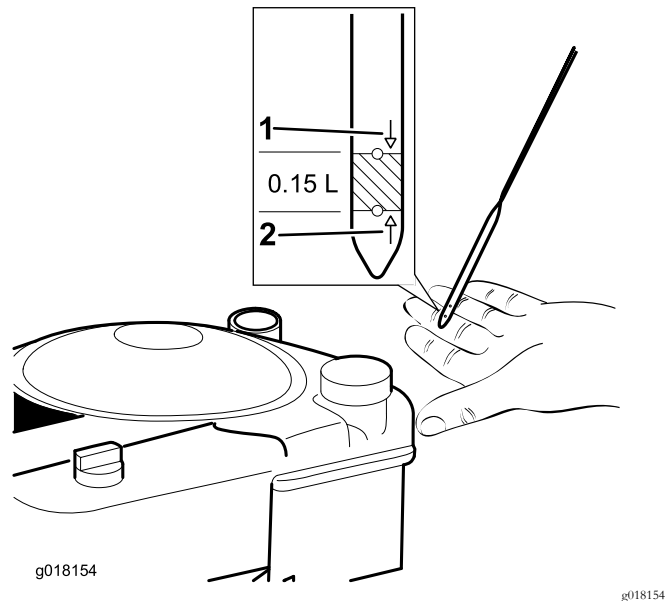

Figure 10
- 3. If the oil level is low, **slowly** pour oil into the oil-fill tube, wait 3 minutes, and check the oil level on the dipstick by wiping the dipstick clean and then inserting the dipstick into the tube (Figure 10).
- 4. Fill the engine with oil until the dipstick indicates that the engine-oil level is correct as shown in Figure 10. If you overfill the engine with oil, remove the excess oil as directed in Changing the Engine Oil (page 13).